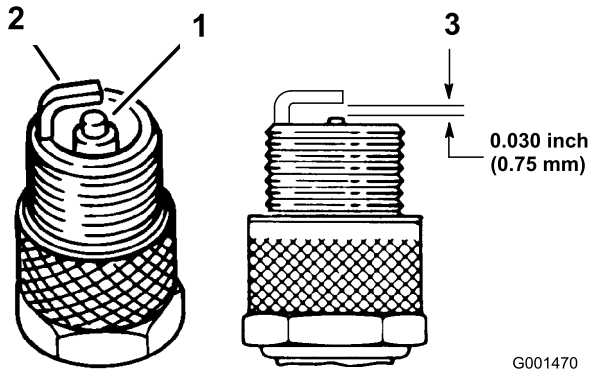

Figure 28
- Look at the center of the spark plugs (Figure 28). If you see light brown or gray on the insulator, the engine is operating properly. A black coating on the insulator usually means that the air cleaner is dirty.
- Check the gap between the center and side electrodes (Figure 28). Bend the side electrode (Figure 28) if the gap is not correct.
- Connect the wires to the spark plugs (Figure 28).